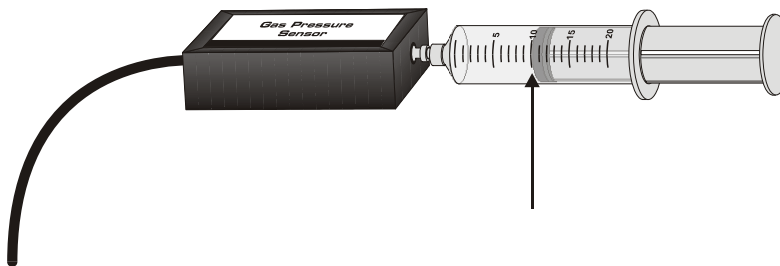

Figure 1
The primary objective of this experiment is to determine the relationship between the pressure and volume of a confined gas. The gas we use will be air, and it will be confined in a syringe connected to a Pressure Sensor (see Figure 1). When the volume of the syringe is changed by moving the piston, a change occurs in the pressure exerted by the confined gas. This pressure change will be monitored using a Pressure Sensor. It is assumed that temperature will be constant throughout the experiment. Pressure and volume data pairs will be collected during this experiment and then analyzed. From the data and graph, you should be able to determine what kind of mathematical relationship exists between the pressure and volume of the confined gas. Historically, this relationship was first established by Robert Boyle in 1662 and has since been known as Boyle's law.
- c. With the 20 mL syringe disconnected from the Pressure Sensor, move the piston of the syringe until the front edge of the inside black ring (indicated by the arrow in Figure 1) is positioned at the 10.0 mL mark.